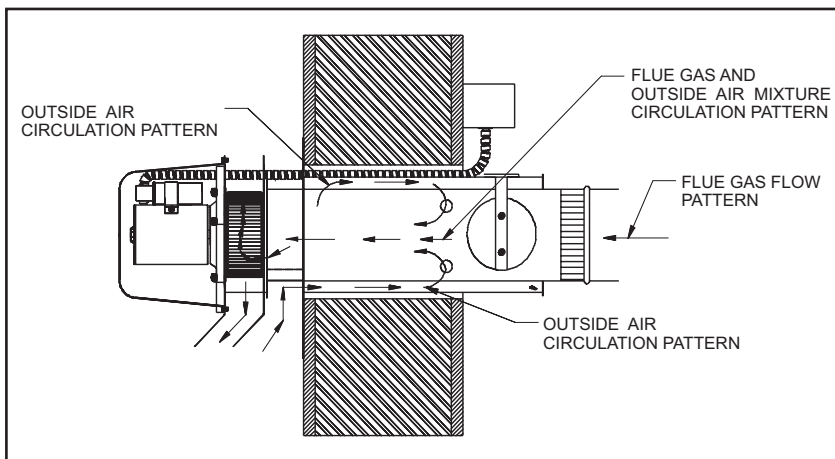

Figure 5
Figure 5 shows how the airflow pattern through an SWG reduces the required clearances to combustibles. NOTE: Vent pipe joints should be secured with at least (3) three sheet metal screws.